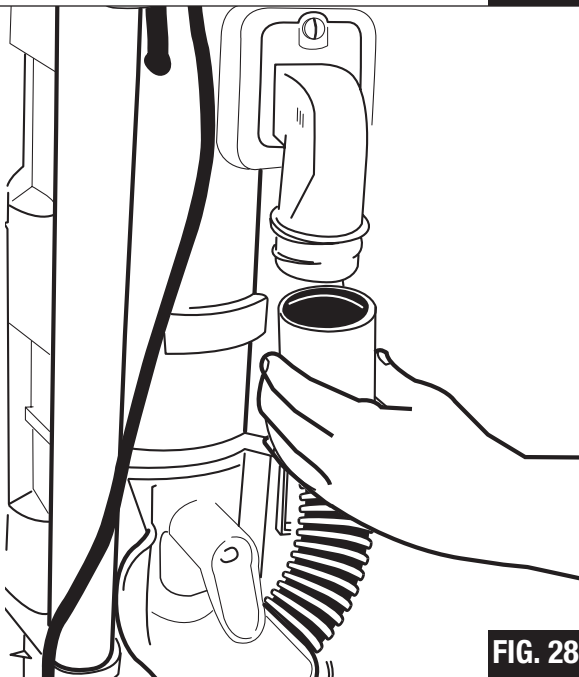

FIG. 28
- Step 4:** Twist the hose from the coupling elbow on the back of cleaner. Check for blockages at cleaner opening and in hose (FIG. 28). If a blockage is found, clear the blockage. The screw attaching the clear hose adapter can be removed for better access to a blockage.